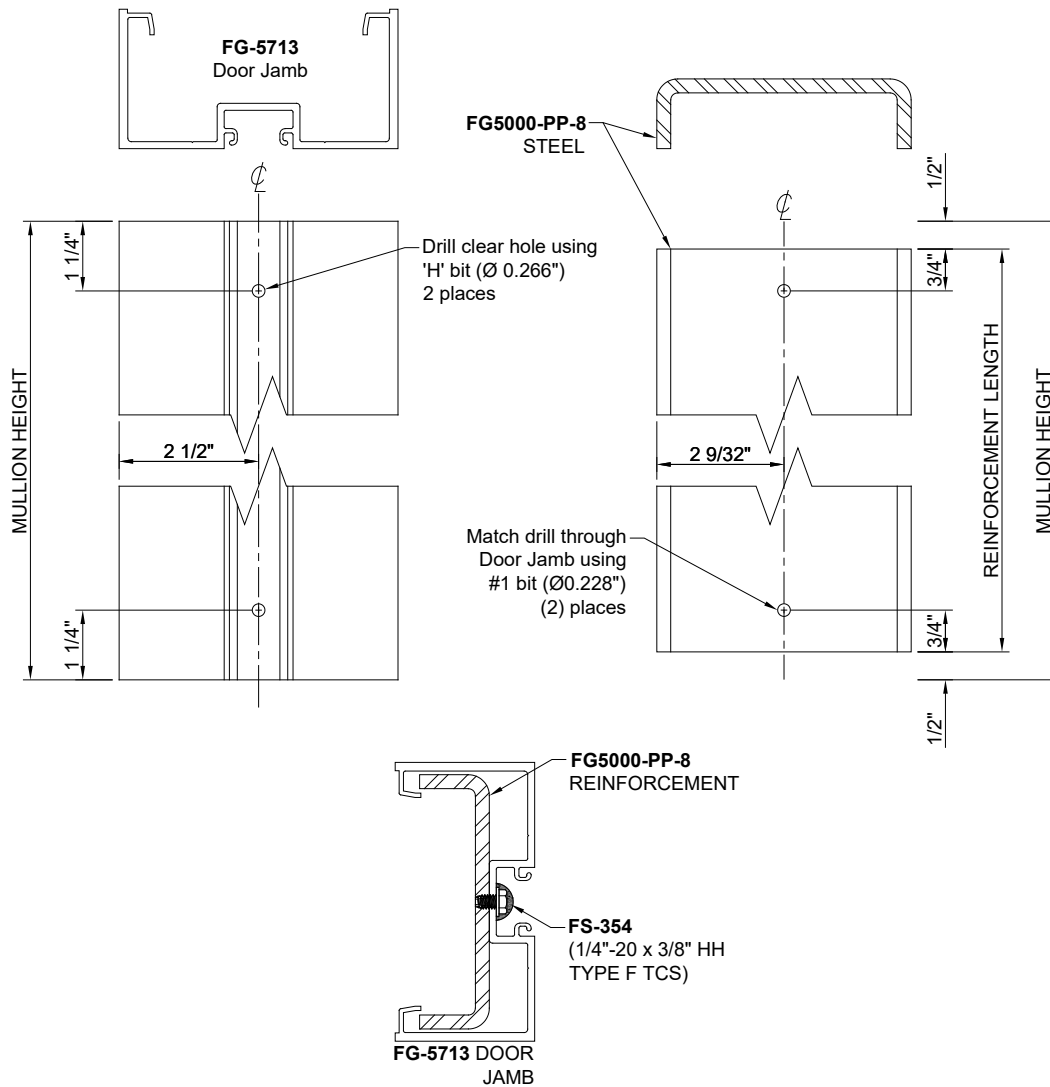

Figure 11: Hole Prep for Aluminum/Steel Reinforcement
2.5.1 Drill clear holes in Door Jamb as shown in Figure 11 using 'H' bit (Ø 0.266).